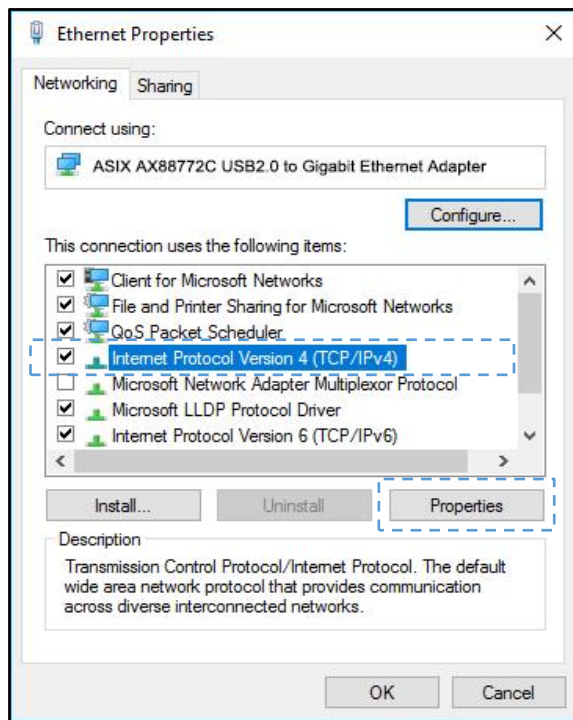

Figure 5-10 Ethernet Properties
Step 4: Select "Properties" by right-clicking on the selected network icon (or double-click the network icon), open the "Ethernet Properties" window (Figure 5-10), select "Internet Protocol Version 4 (TCP/IPv4)", and then click the "Properties" button;